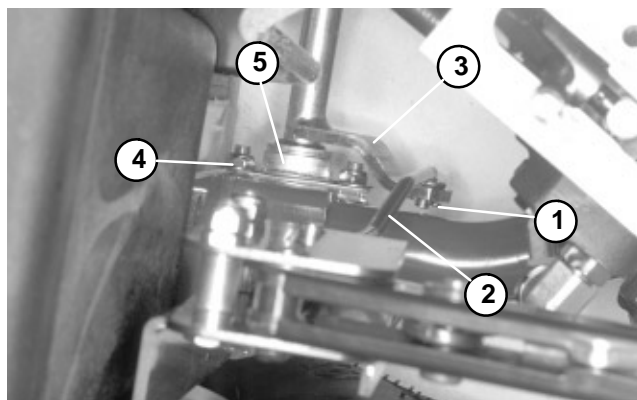

Figure 28
6. Remove cotter pin from the brake rod. Separate brake rod from the traverse rod lever (Fig. 28).
7. Loosen both hex flange head screws and lock nuts on each side flange bearing. Lower traverse rod from the frame (Fig. 28).
6. Position traverse rod to the frame. Make sure each side flange bearing is on the inside of the frame. Secure bearings to the frame by tightening both hex flange head screws on each bearing (Fig. 28).
7. Connect brake rod to the traverse rod lever. Secure brake rod with cotter pin (Fig. 28).